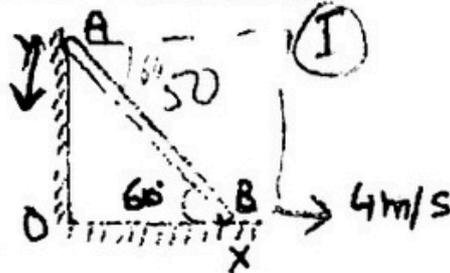

Figure 8
- (b) A straight rod  $AB$ , 50cm long has one end  $B$  moving with a velocity of 4m/s and the other end  $A$  moving along a vertical line  $YO$  as shown in figure 8. Find the velocity of the end  $A$  and of the midpoint of the rod when it is inclined at  $60^\circ$  with horizontal. (3)